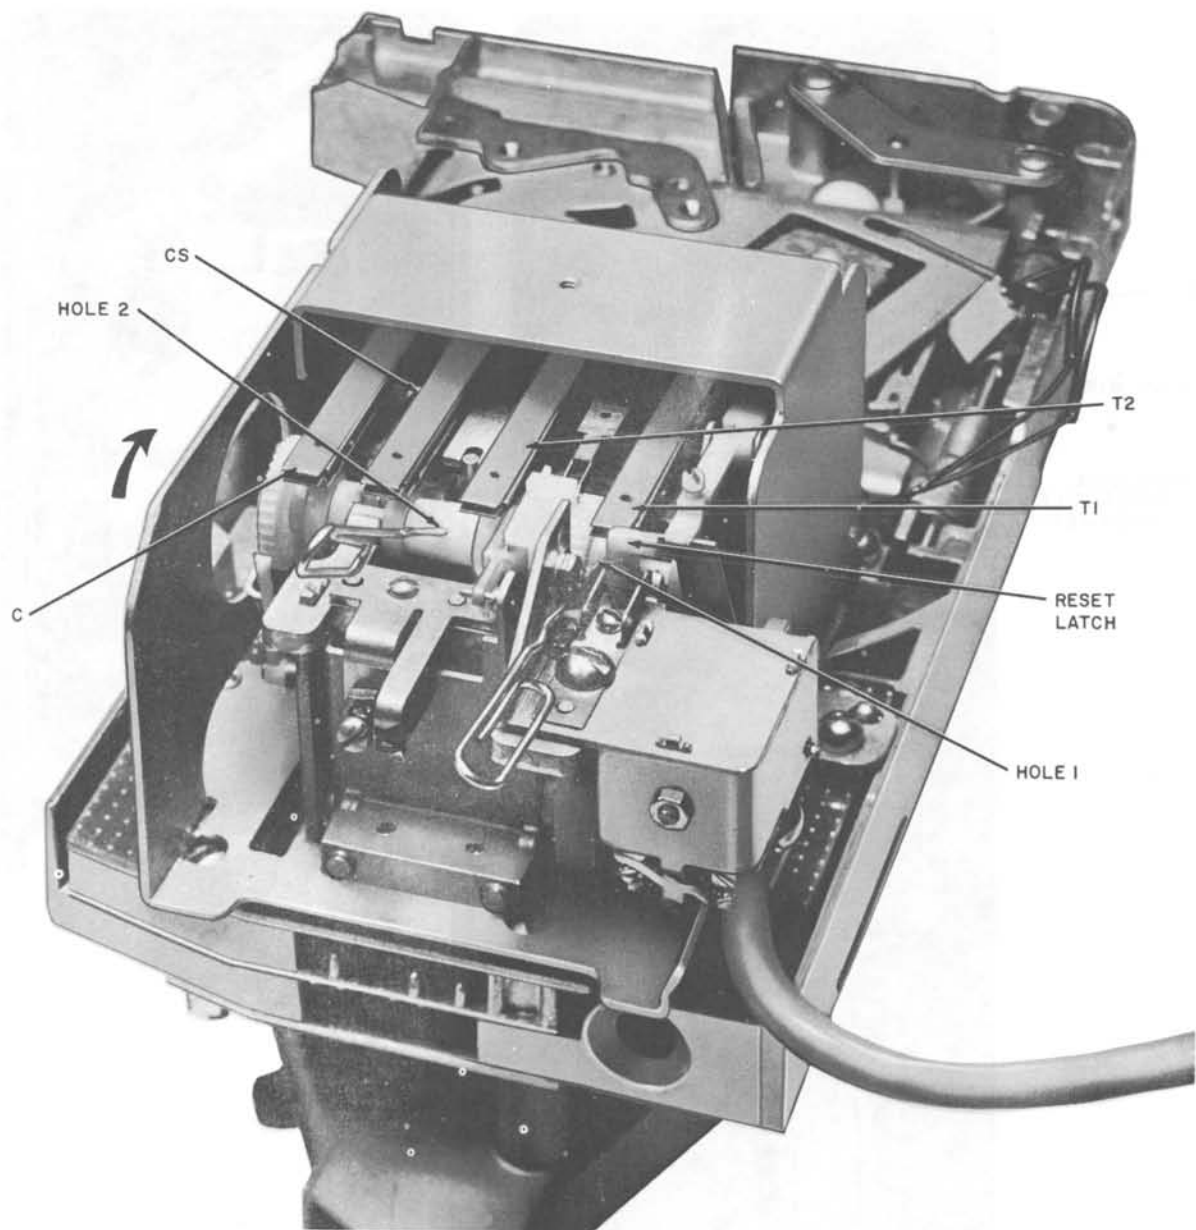

Fig. 10—Setting Totalizer Rate
Use extreme care when resetting totalizer. Avoid damaging pawl and spring pile-ups. Do not attempt to turn totalizer cam shaft in direction opposite that shown in Fig. 10.
- (2) Rotate totalizer shaft in proper direction (from bottom to top) until springs T2 (Fig. 10) rest in depression in shaft as indicated by movement of springs.
- (3) Depress reset latch (Fig. 10) toward bottom of totalizer.
- (4) Rotate shaft in proper direction until contacts T1 operate as indicated by an upward movement of the reset latch.
- (5) Do not allow shaft to move. Insert one KS-16750, List 2 releaser or paper clip into hole 1 (Fig. 10) located near right-hand end of shaft. Take care not to disturb contact springs.
- (6) Hold the paper clip firmly so that right-hand end of shaft cannot move.
- (7) Insert the second releaser or paper clip into one of four holes indicated as hole 2 in center of shaft (Fig. 10). Do not allow end of releaser or clip to extend too far beyond shaft; this may damage insulation of coil located directly beneath shaft.
- (8) Rotate second releaser or clip in proper direction until springs T2 come to rest in depression in shaft. This is zero rate position. Do not remove releasers or clips from holes in shaft.